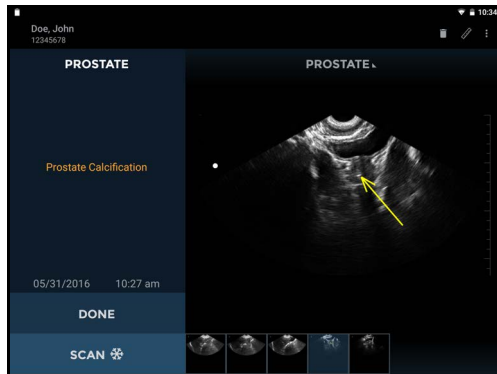

FIGURE 30. Arrow
- Arrows highlight part of the image but do not perform a measurement (see FIGURE 30. Arrow).